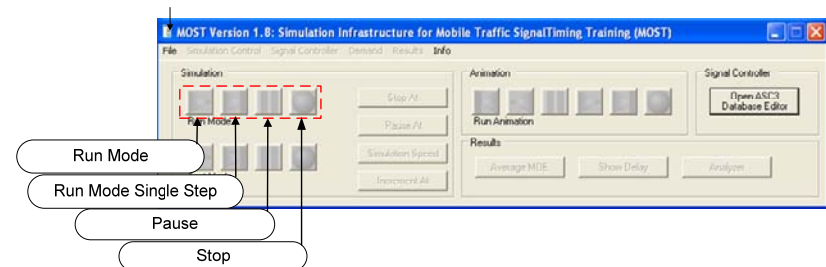

Figure 3 MOST interface Run Mode functions
- The Run mode toolbar functions are illustrated in Figure 3. All of the control buttons are grayed out until a simulation file is opened. The controls in the Run Mode toolbar are described below.